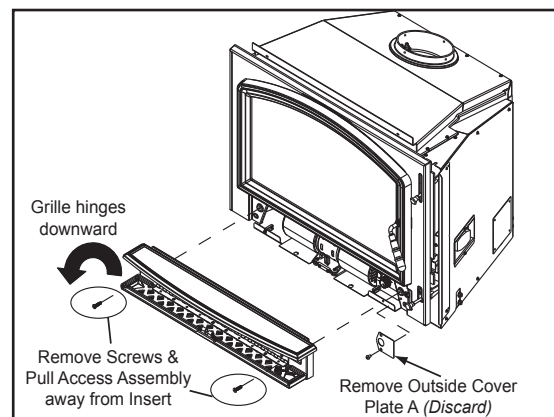

Figure 19.1
1. Swing grille down to expose the two screws. **Figure 19.1**